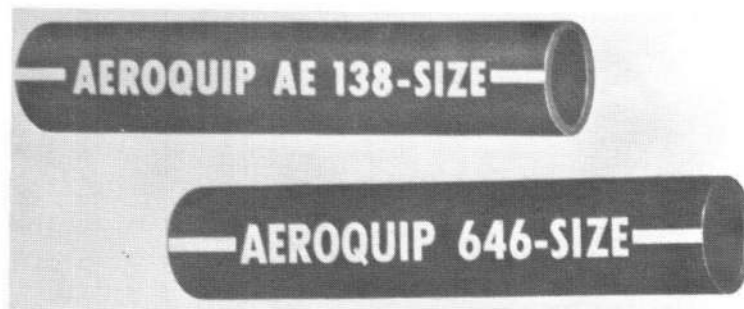

Fig. 1 Abrasion resistant sleeve Part No. AE138(646)
2. (1) Sleeve Part No. AE138 (formerly part No. 646) (fig. 1), is a tough, synthetic rubber, scuff cover which is fuel, oil and ozone resistant. This sleeve is used in both ground servicing and airborne applications and is satisfactory for use over a temperature range of -54° to $+121^{\circ}\text{C}$ (-65° to $+250^{\circ}\text{F}$).